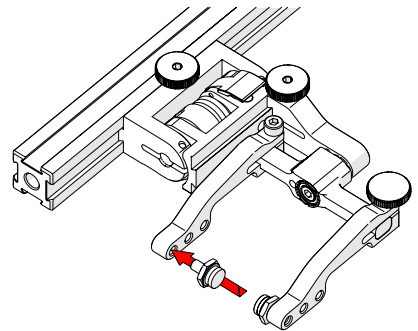

Fig. 65 - Place pivot buttons
4. Using the supplied 3/8 in wrench (Fig. 28), place the pivot buttons as required (Fig. 65).